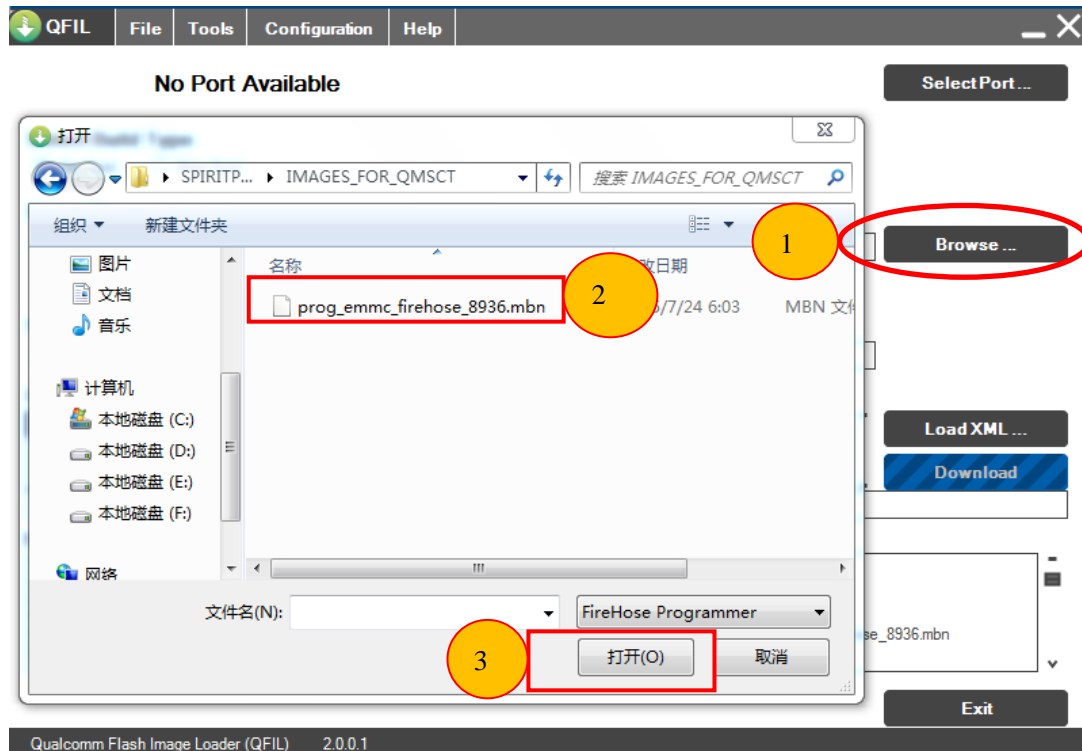

Figure 5.3-2: Choose mbn file
Step 2: click the icon “Browser” to choose the file “prog_emmc_firehose_8936.mbn” which is located in firmware folder, showing as Figure 5.3-2;